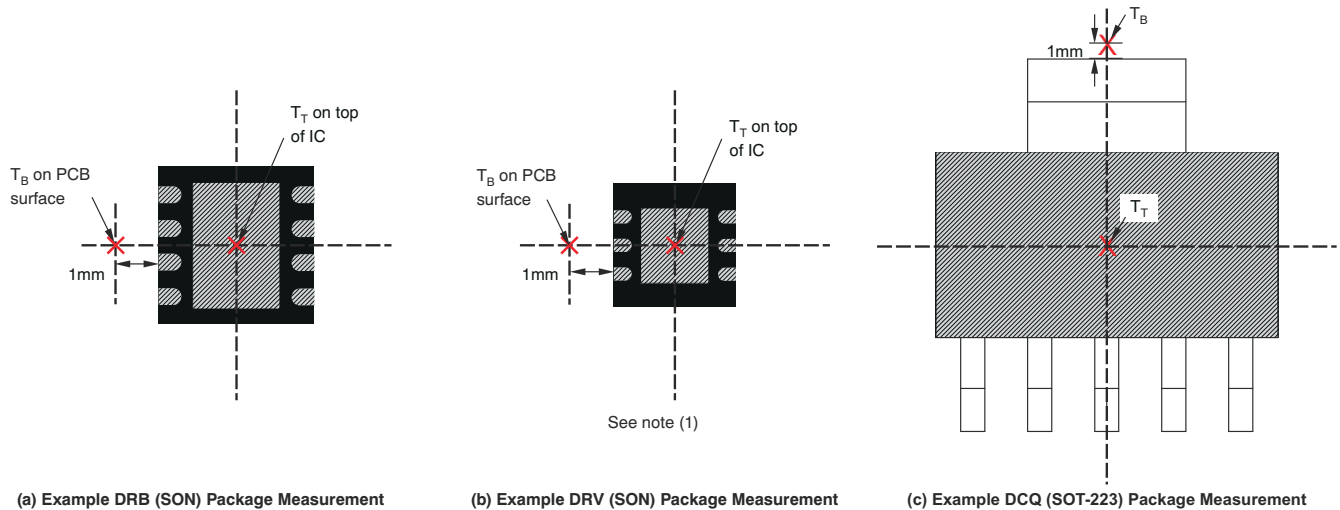

Figure 7-8. Measuring Points for T_T and T_B
- T_B is the PCB temperature measured 1-mm away from the device package *on the PCB surface* (as Figure 7-8 shows)
For a more detailed discussion of why TI does not recommend using $\theta_{JC(top)}$ to determine thermal characteristics, see the Using New Thermal Metrics application note, available for download at www.ti.com. For further information, see the Semiconductor and IC Package Thermal Metrics application note, also available on the TI website. Figure 7-8 shows the measuring points for DRB, DRV, and DCQ packages.